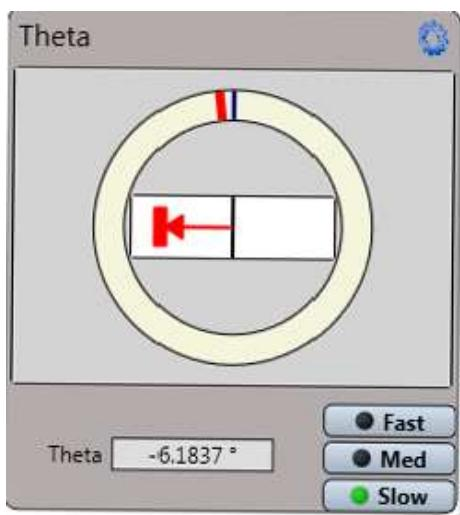
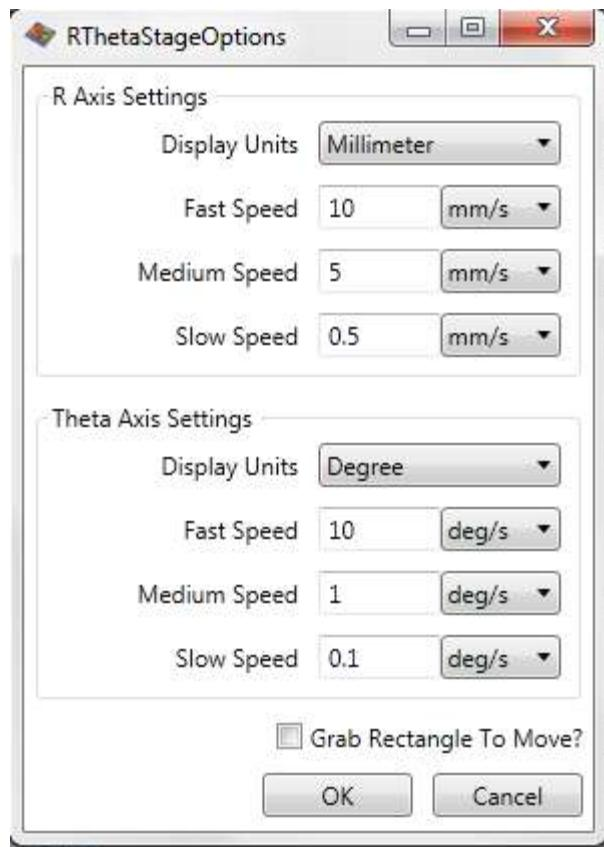

Figure 7: Theta Stage Control
Figure 8: RTheta Stage Options Dialog Box
1. In the Theta Control Panel in the Live Video Display (see Figure 7), click the blue Gear icon in the upper right corner to enter the units as well as the speeds for Fast, Medium, and Slow on both the R Axis and the Theta Axis (see Figure 8). When your settings are complete, click **OK**.